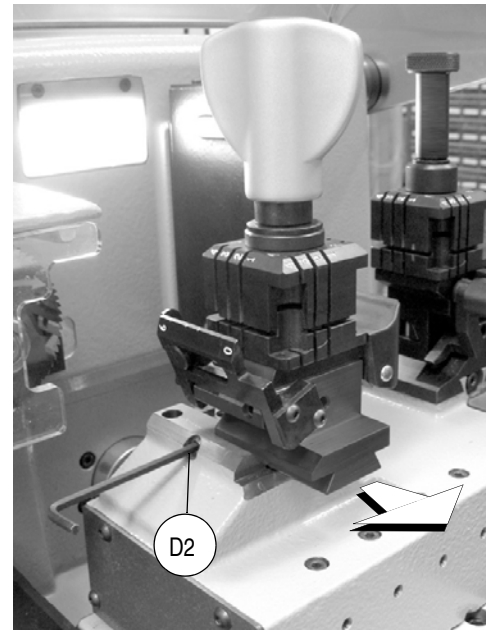

Fig. 17
- loosen the grub screw (D2) (fig. 17) and slide the clamp out of the dovetail guide.